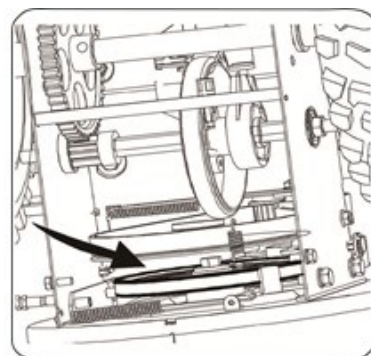

Fig.30
4. Slide the belt off the pulley and between the friction wheel and friction wheel disc. See figure 30.